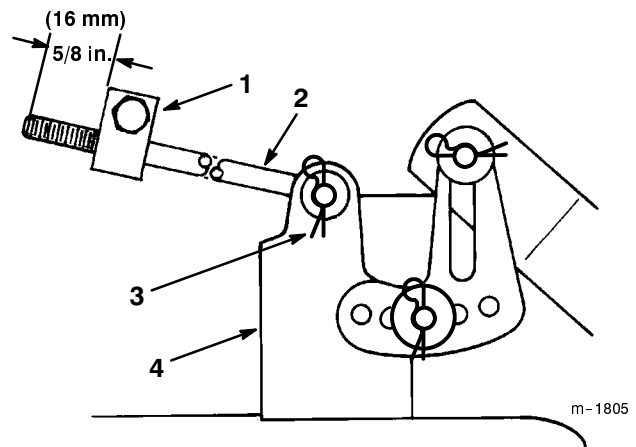

Figure 47
6. Measure the length of the rod extending out of the front of the adjusting block on the sides of the chassis (Fig. 47). If the rod length is not 5/8 in. (16 mm), remove the hairpin cotter and washer from the end of the rod (Fig. 47), and turn the rod until the 5/8 in. (16 mm) dimension is obtained. Then install the end of the rod into the hole in the mower mount and secure it in place with the washer and hairpin cotter. Repeat this procedure on the opposite side of the mower.